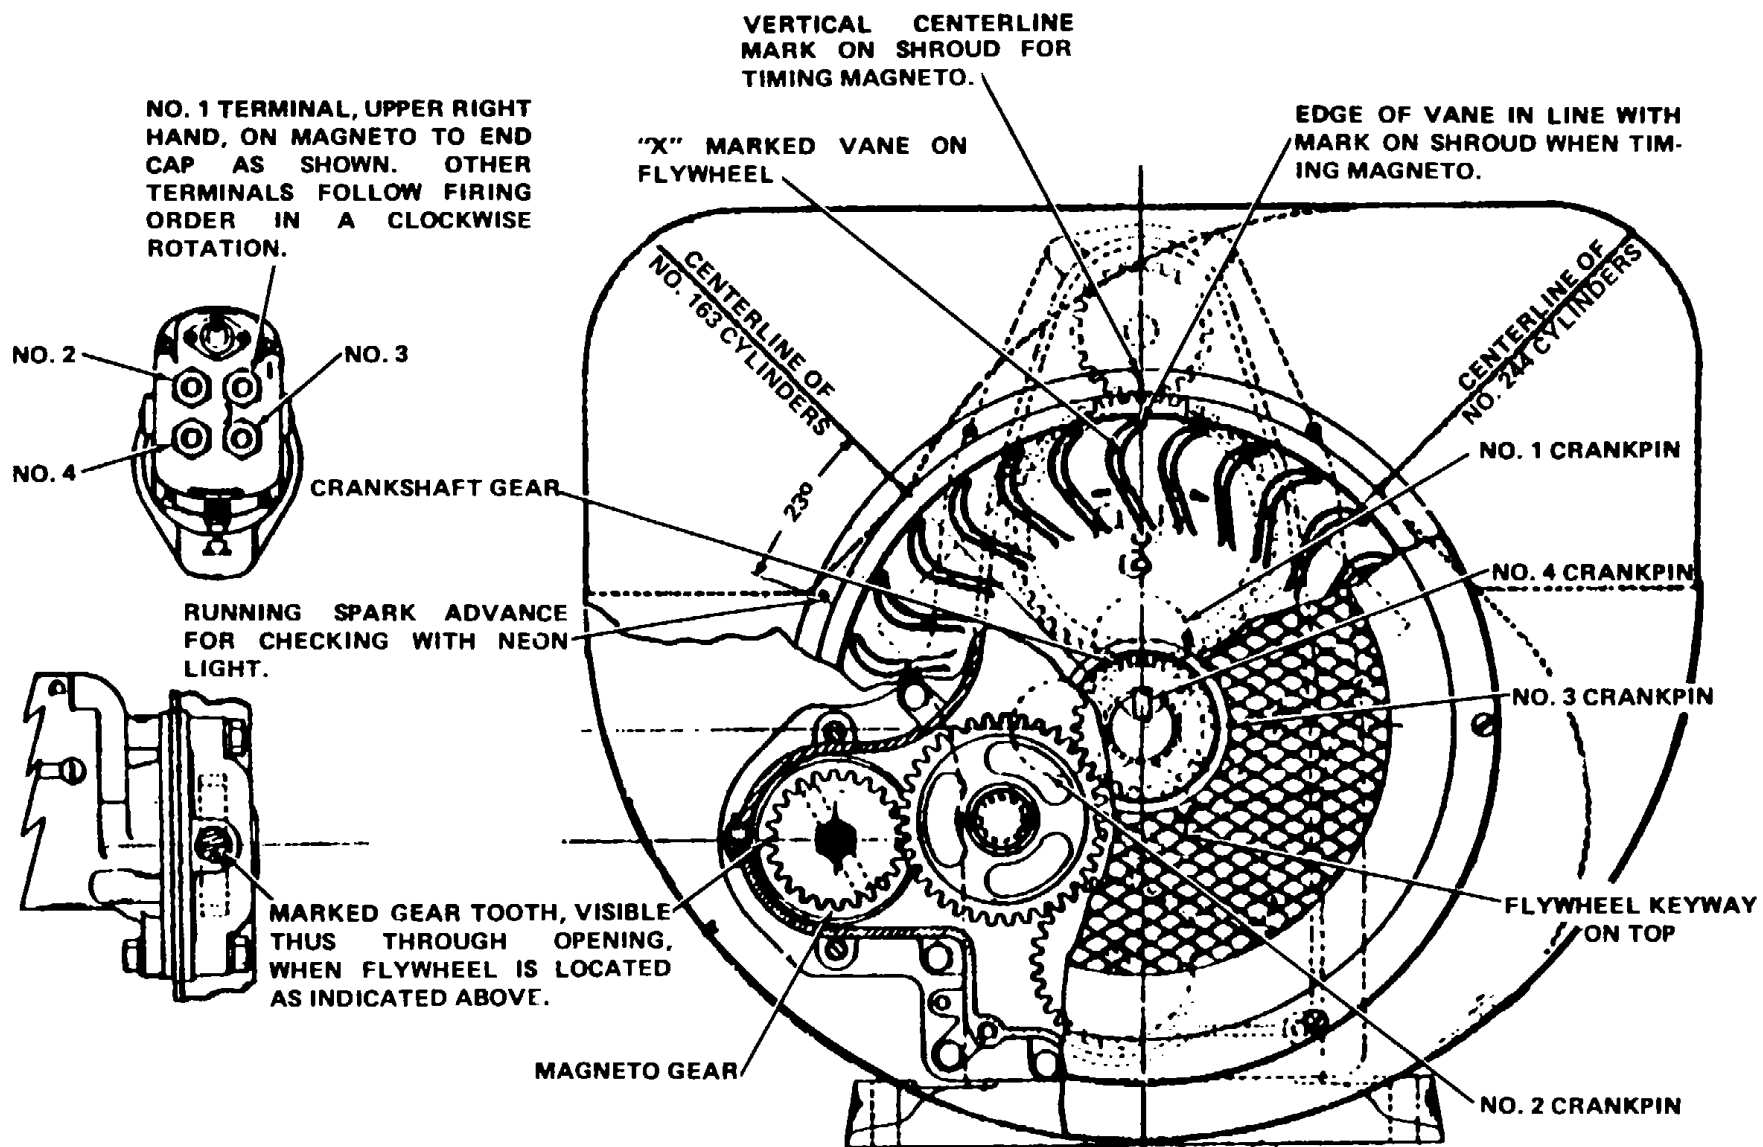

Figure 6-33. Magneto Installed
- (1) Install four new manifold seals into cylinder block.
- (2) Position intake and exhaust manifold assembly over studs in cylinder block.
- (3) Carefully lower intake and exhaust manifold assembly over studs. Seat manifold onto seals.
- (4) Install four nuts and four washers. Tighten to 18 lb-ft torque.
- (5) Connect exhaust pipe to exhaust manifold elbow.
- (6) Install seal clamp.
- (7) Install and secure two bolts, two nuts and four washers.
- q. Magneto. Install magneto (Figure 6-33).
- (1) Remove # 1 spark plug.
- (2) Rotate engine while holding finger over # 1 spark plug hole.
- (3) Locate the letters "DC" near one of the blower vanes on the flywheel.
- (4) Slowly turn engine until air blows out of # 1 spark plug hole.
- (5) Continue turning engine until the letters "DC" are aligned with mark on shroud.